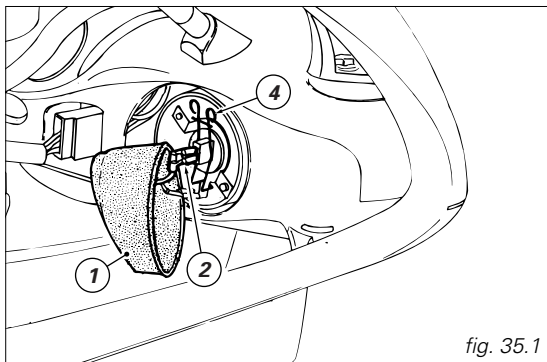

fig. 35.1
**low beam bulb** (fig. 35.1): remove the rubber cover (1). Press the lower quick-release button to disconnect the connector (2).
Release the clip (4) that secures the bulb and remove it from the socket (fig. 35.1 and 35.2).